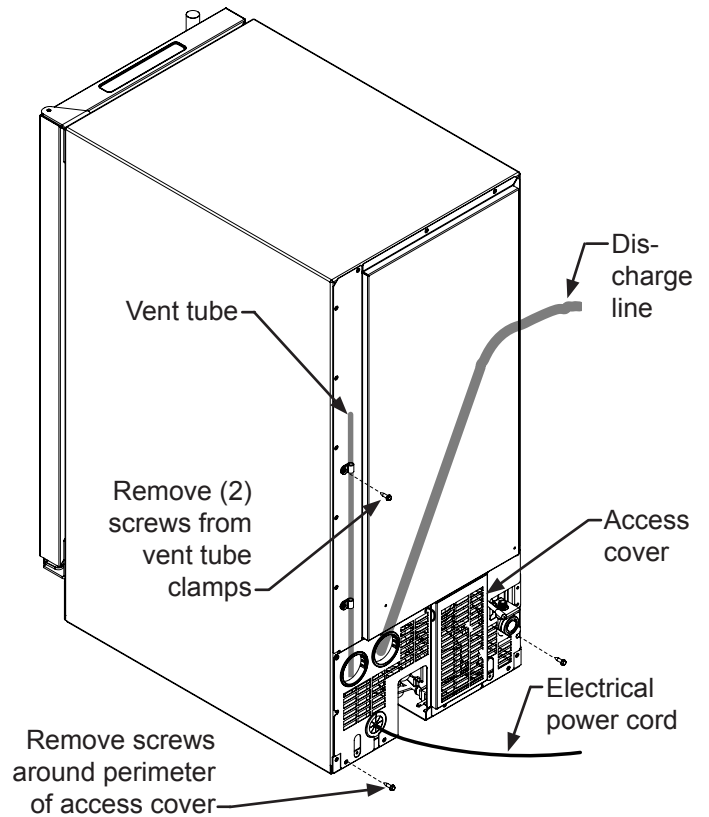

Figure 9
- 2) Remove the 2 screws from the vent tube clamps and all of the screws around the perimeter of the access cover with the $\frac{5}{16}$ " nutdriver. remove the access cover from the ice machine. (See Figure 9).
- Check that the vent line is open, free of kinks and sharp bends so that the air can flow freely from the pump reservoir. See Figure 9 on page 8.